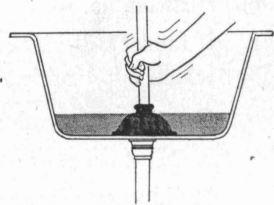

Fig. 65
1. Fig. 65 shows a suction plunger used to clean sluggish drains.